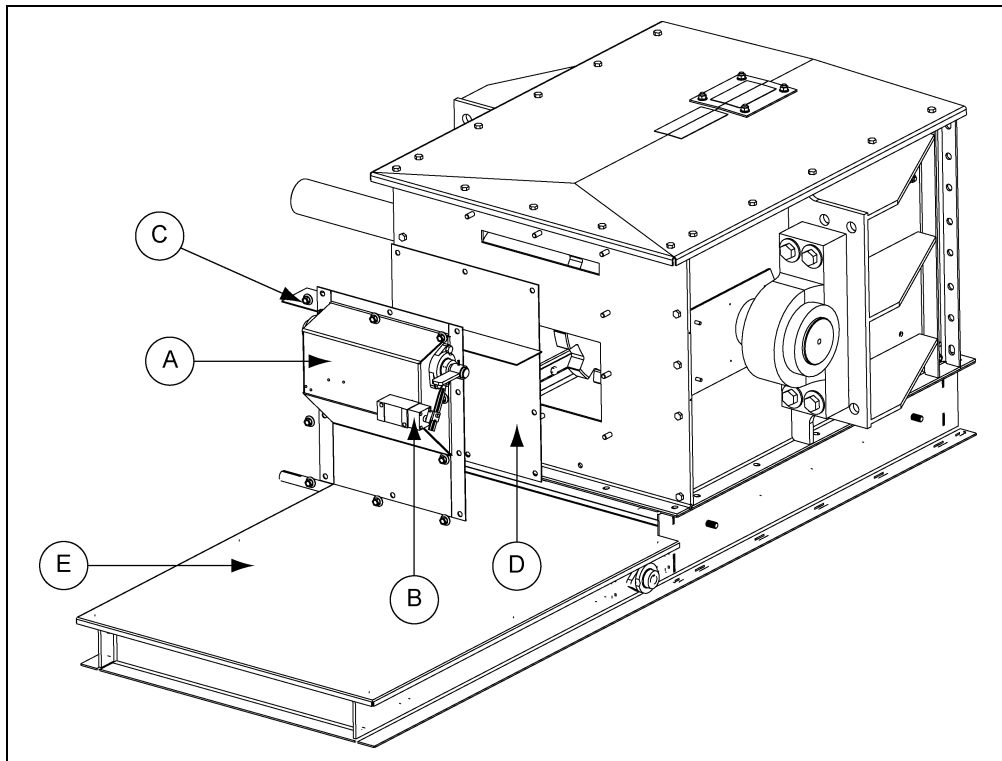

Figure 10C 20 Inch Tall Plug Relief Door with Head Gate
NOTE: The two (2) baffle plates (C) should be removed to install the plug relief door and will be re-installed after the main assembly of the plug relief door is installed. *(See Figure 10C.)* The tongue attached to the pivot shaft will rest lying on the upper thin slot in the end channel. During re-installation, the baffle plates should be spread to the widest coverage possible. Make sure to leave enough clearance to not impede the pivot of the baffle and pivot plate for the doors trigger operation.
3. Install the limit switch (B) by removing the appropriate knock-outs. (Refer to the manufacturers supplied instruction sheet for wiring limit switches.)